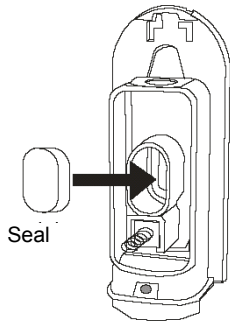

Figure 4
- Insert the rubber oval seal (included) as shown in figure 4.